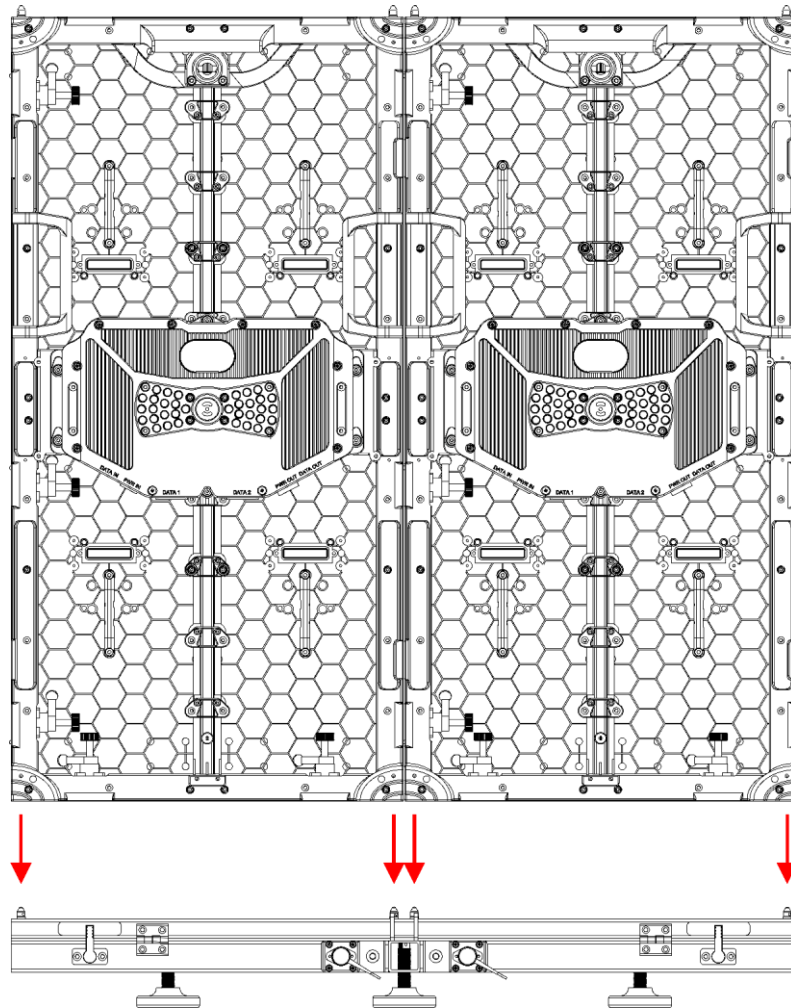

Fig. 13
- 01) Put the Premiere LED panel on the **bottom frame (C)** so that the 4 **mounting pins (07)** and the 4 **fast-lock openings (06)** fit in the openings of the Premiere LED panel (Fig. 13).